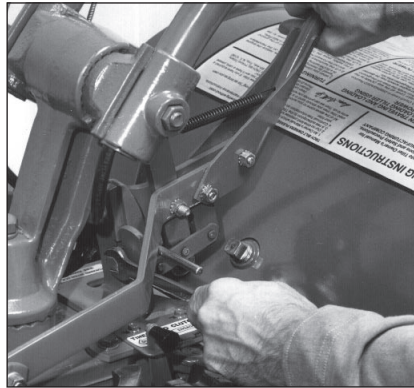

Figure 5-16: Hold Drive Lever while loosening bolt. Push lever down to tighten belt; pull up to loosen belt.
5. Use one hand to hold the drive lever in FORWARD while using a 9/16" wrench to loosen (don't remove) the bolt at the back of the belt adjustment block (Figure 5-16). The adjustment block should be free to move either up or down.